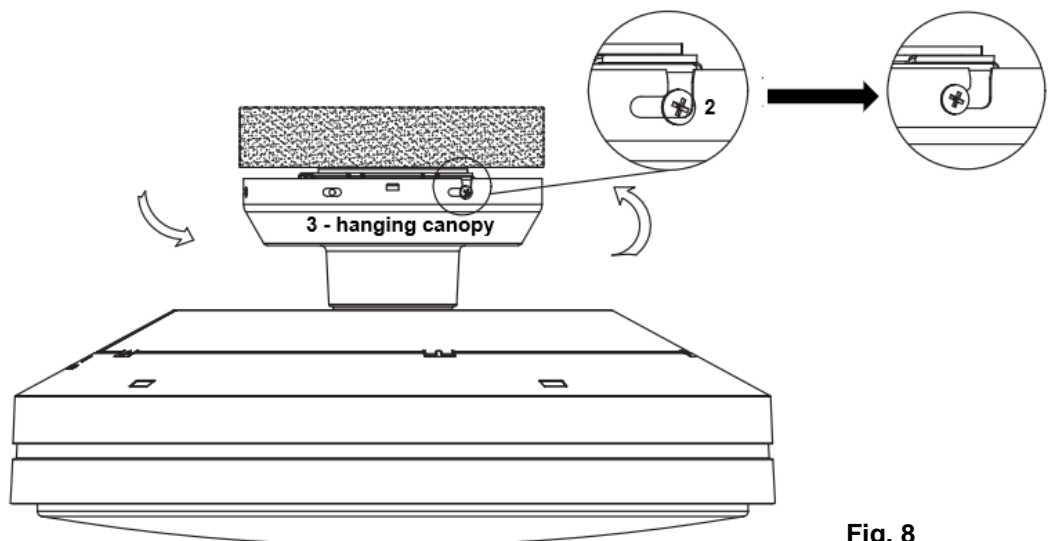

Fig. 8
- Lift the hanging canopy (3) of the fan assembly up to the mounting bracket and let the L-shape slot on the hanging canopy (3) go through the one canopy screw (2). (Fig.8)
- Turn the hanging canopy (3) until it locks in place at the end section of the L-shape slot. Secure it by tightening the one canopy screw (2). (Fig.8)